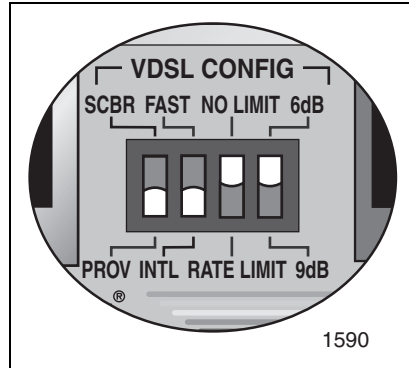

Figure 13. Configuring AT-MC605 Ethernet Extender for Provider Mode
3. Configure the right VDSL CONFIG switch (SCBR/PROV) to the SCBR position as shown in Figure 13.
1. Configure the right VDSL CONFIG switch (SCBR/PROV) to the SCBR position as shown in Figure 13.